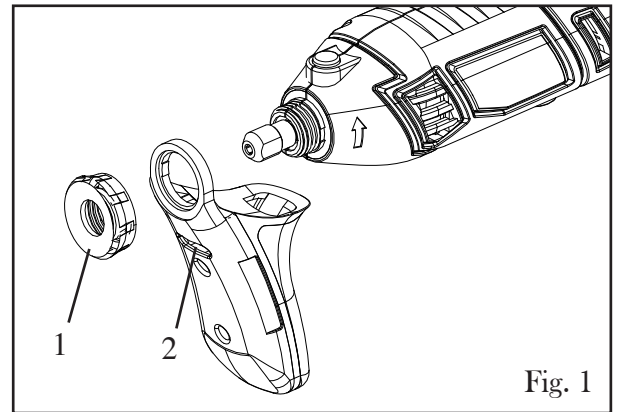

Fig. 1
STEADY GRIP HANDLE ATTACHMENT (Fig. 1 & 2)
2. Convert it to the regular configuration by unscrewing the locking collar (Fig. 1 - 1) and removing the steady grip attachment (Fig. 1 - 2). Find the wider locking collar included in your rotary tool kit, and thread it onto the end of the rotary tool (Fig. 2).